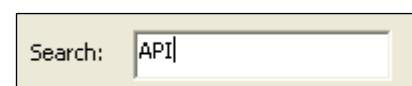

Figure 248
5. The list of suppliers is presented in alphabetical order. To search for a supplier, simply type the name or part of the supplier name in the search box (Figure 248).